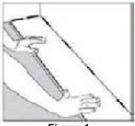

Figure 1
3. Starting from the left with the tongue facing the wall, carefully place the first board in place. Figure 1.